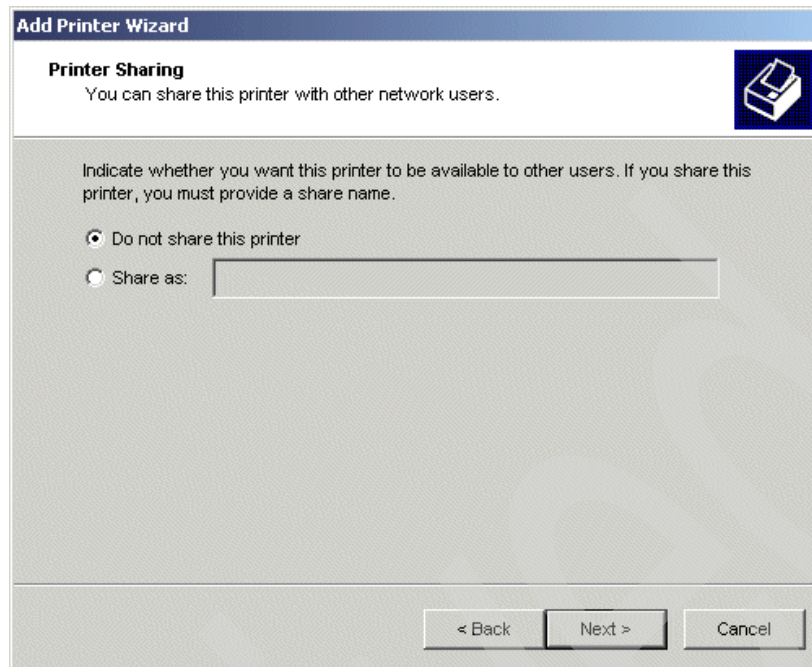

Figure 128. Printer sharing
10. At this point on the Printer Sharing panel (Figure 128), you can share this Windows printer definition. However, this printer definition is already a kind of shared printer. It is really connected to the iSeries. Your spooled files are sent to the iSeries output queue.